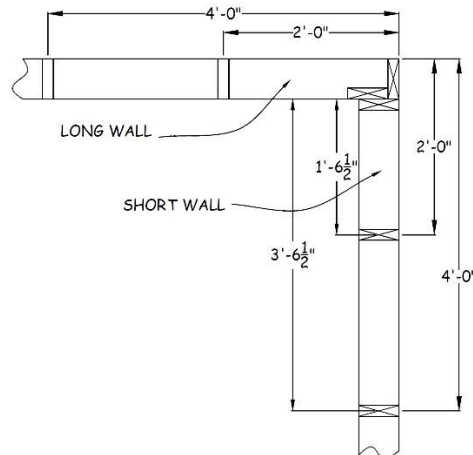

Figure 3-4. Corner Layout.
4. For plates on the long walls, take into account that the studs are placed on 2' centers from the outside of the zero corner. Plates on the short walls will be cut 5½" shorter than that to place their ends inside the long wall plates (see Figure 3-4).